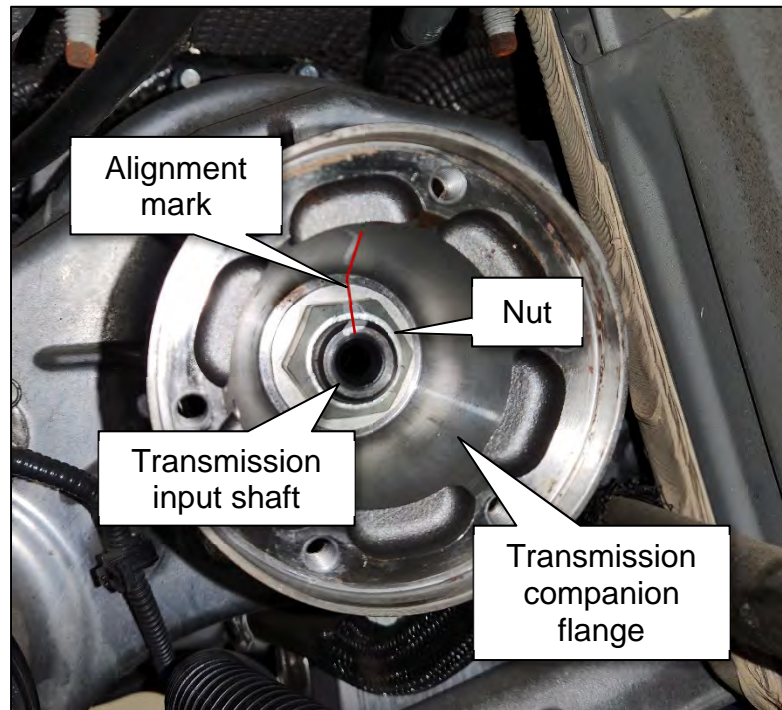

Figure 7
7. Put an alignment mark on the transmission input shaft, nut, and transmission companion flange, as shown in Figure 7.